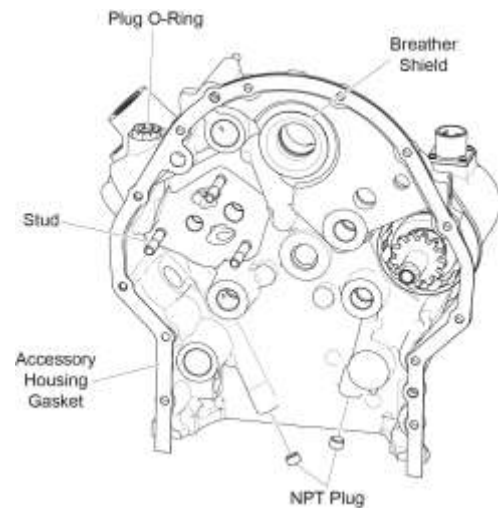

Figure 6
- D. Place a new accessory housing gasket (Figure 6) over the locating dowels on the rear of the crankcase.